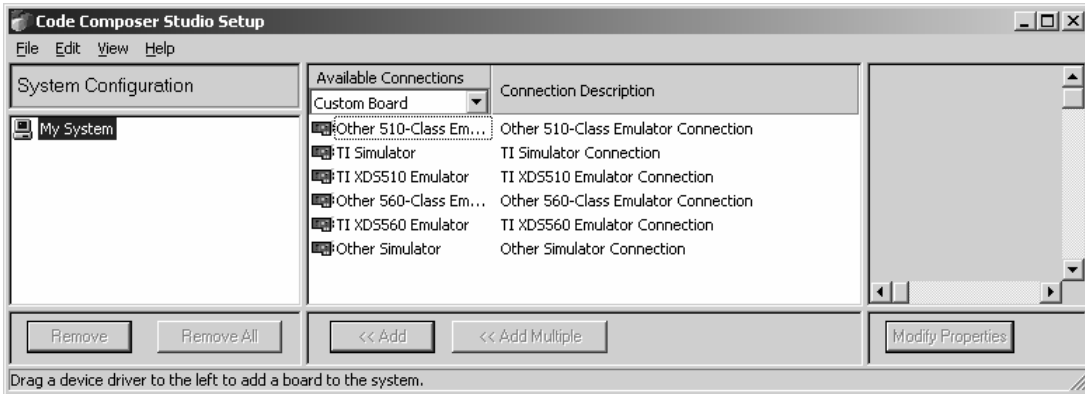

FIGURE 25 Configuring devices in Code Composer Studio 2.4.
1. In the Code Composer Studio Setup program, Choose Custom Board from the Available Connections list box (Figure 25).